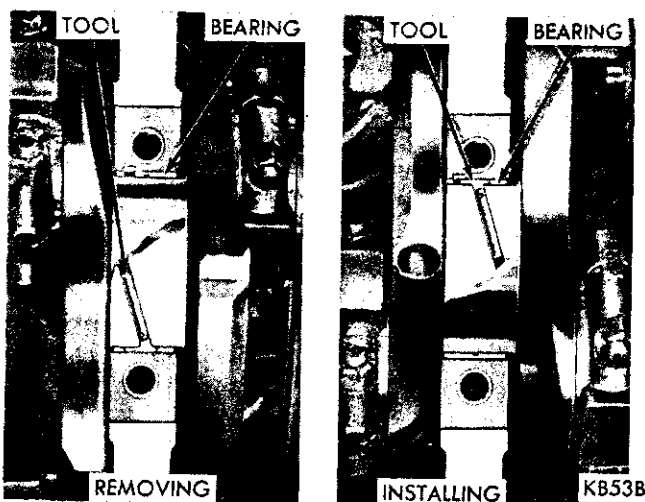

Fig. 45—Removing or Installing Upper Main Bearing
(1) Remove oil pan and identify bearing caps before removal.
(2) Remove bearing caps one at a time. Remove upper half of bearing by inserting Tool C-3059 (Fig. 45) into the oil hole of crankshaft.
(3) Slowly rotate crankshaft clockwise, forcing out upper half of bearing shell.
(1) Start bearing in place, and insert Tool C-3059 into oil hole of crankshaft (Fig. 45).
(2) Slowly rotate crankshaft counter-clockwise sliding the bearing into position. Remove Tool C-3059.